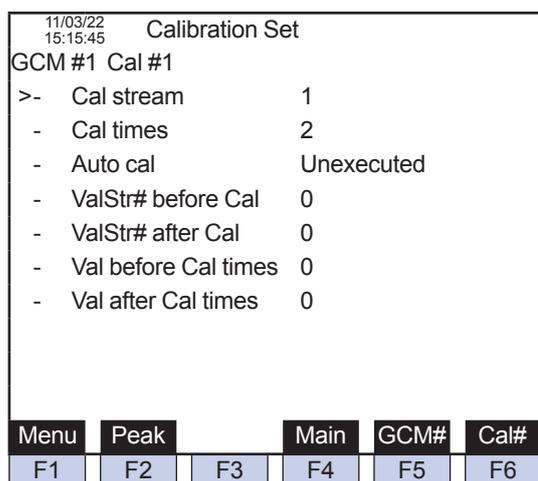

Figure 3.26 Example of calibration setting screen
- (1) Press F4 key (Cal) on the Cal/Val Set (Main) screen. (The screen of Figure 3.26 appears.)
- (2) Cal stream sets the calibration stream to be measured.
- (3) Cal times sets the number of times of measurement of the calibration stream.
- (4) Auto cal sets whether the calibration of this calibration number is conducted or not at automatic calibration (effective only for the automatic calibration).
- (5) ValStr# before Cal sets the number of the validation stream to be measured before measuring the calibration stream.
- (6) ValStr# after Cal sets the number of the validation stream to be measured after measuring the calibration stream.
- (7) Val before Cal times sets the number of times of measurement of the validation stream before measuring the calibration stream.
- (8) Val after Cal times sets the number of times of measurement of the validation stream after measuring the calibration stream.